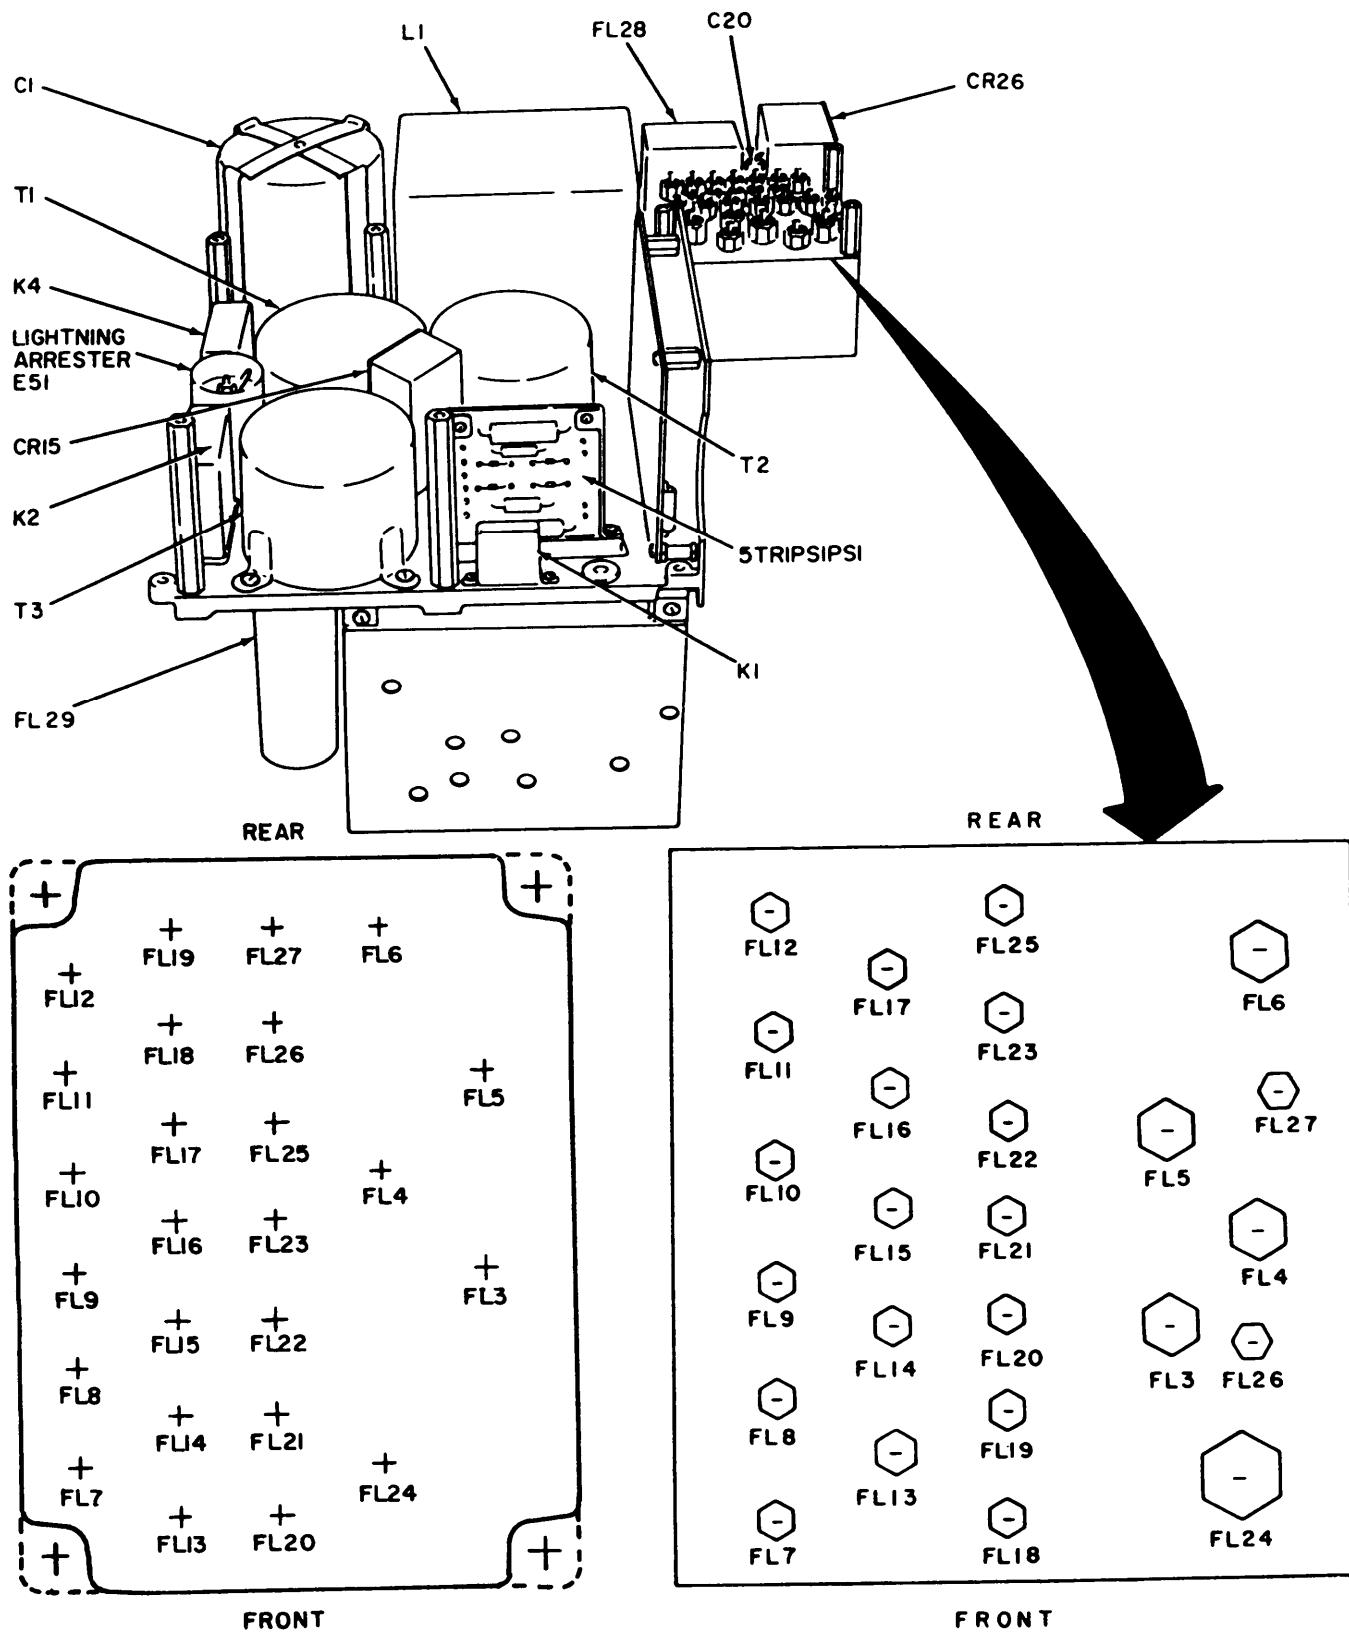

Figure 3-115. Power Supply 5TR1PS1, with Heat Sink Removed.
(a) Using the test setup shown in figure 3-114, T2, locate transformer T2 (fig. 3-115) on the unit under test. Set the oscilloscope MODE selector to ADD and RIGHT vertical channel POLARITY switch to
(b) Connect the multimeter to FL21 (+) and FL20(–) (output filament) (figure 3-115).
- (8) 600 V output and meter circuit check.
- (a) Using the test setup shown in figure 3-114, connect the multimeter negative lead to ground and the positive lead to FL24 (fig. 3-115).